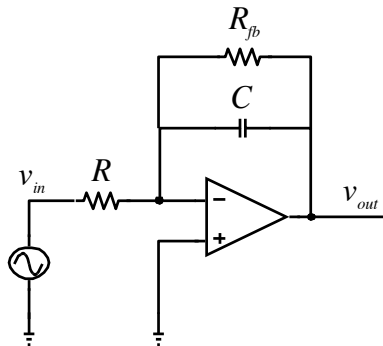

Figure 1.13: Circuit schematic of an inverting integrator.
1. Build the inverting integrator of Figure 1.13 using $R_{fb} = 100\text{ k}\Omega$, $R = 10\text{ k}\Omega$ and $C = 22\text{ nF}$.